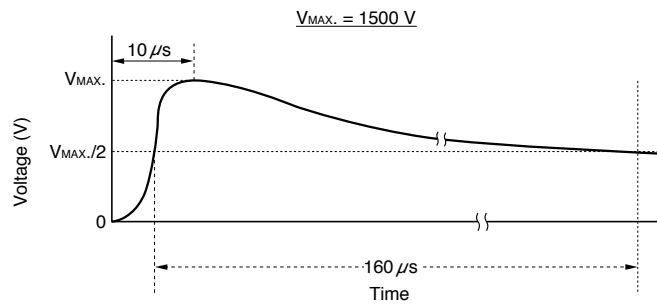

Figure 3.8 Surge Voltage Waveform
The ED2 series relay can withstand even if the surge voltage shown in Figure 3.8 is applied (1) between opening contacts, (2) between coil and contacts, or (3) between adjacent contacts.